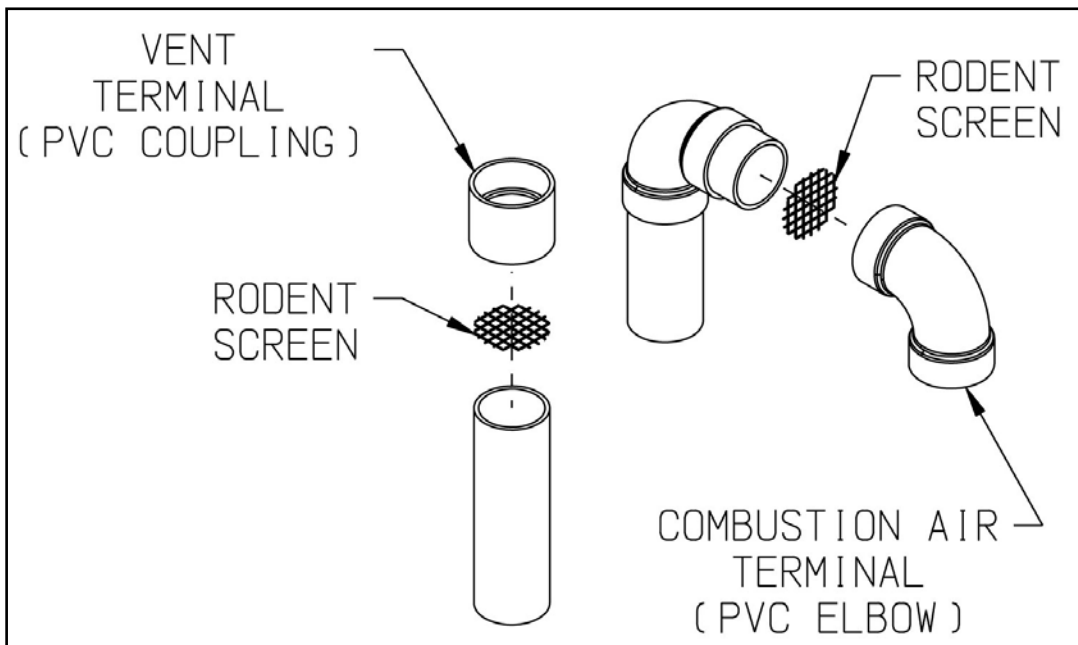

Figure 7.29: Installation of Standard Vertical Terminals
- a. See Figure 7.29 for the proper orientation of twin pipe vertical terminals.
- c. A 180° bend (or two 90° elbows) are installed on the top of the air intake pipe. If two 90° elbows are used, the rodent screen provided can be installed between them (Figure 7.29). If a 180° bend is used, install the rodent screen in the open side of the bend, using a ring made of PVC pipe. If desired, the termination fittings can be attached to the end of the vent and/or intake pipes with field supplied stainless steel screws so that they can be later removed for cleaning and inspection. If this is done, drill a clearance hole in these fittings and a tap hole in the end of the vent/intake pipes to accept these screws.